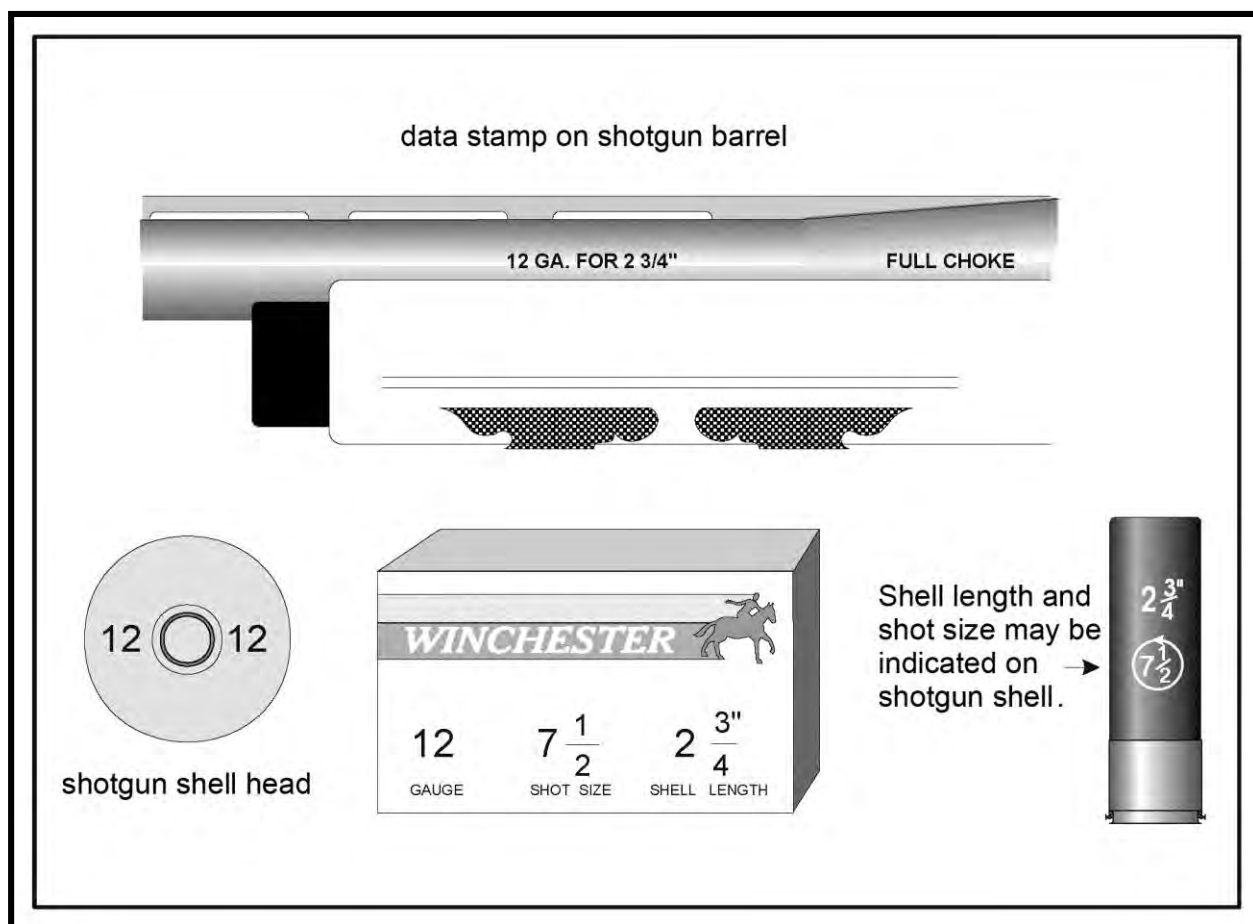

Figure 35. Data Stamp on Shotgun Shell
- a. The following information is stamped on the barrel or action (Figure 35) of many modern shotguns: